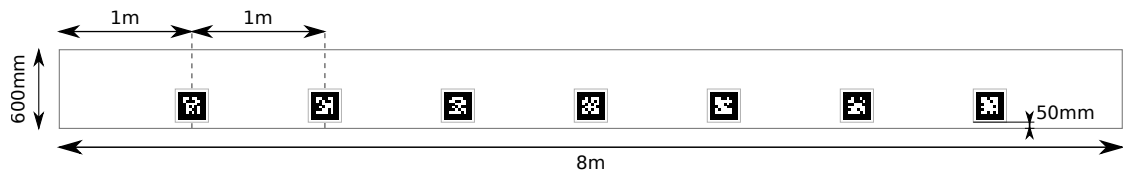

Figure 6: Seven 250mm wide markers are spaced evenly along each 8m arena wall. The markers are placed 50mm above the floor.
3.3.7 Each wall of the arena features seven  $250\text{mm}$  libkoki markers. Figure 6 shows the positioning of these markers, whilst figure 5 shows the numbering of these markers.